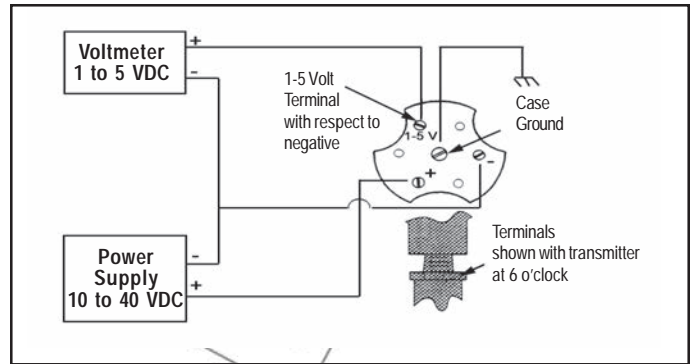

FIGURE 4
1. Connect the transmitter as shown in Figure 4. Case ground must be connected to earth ground.